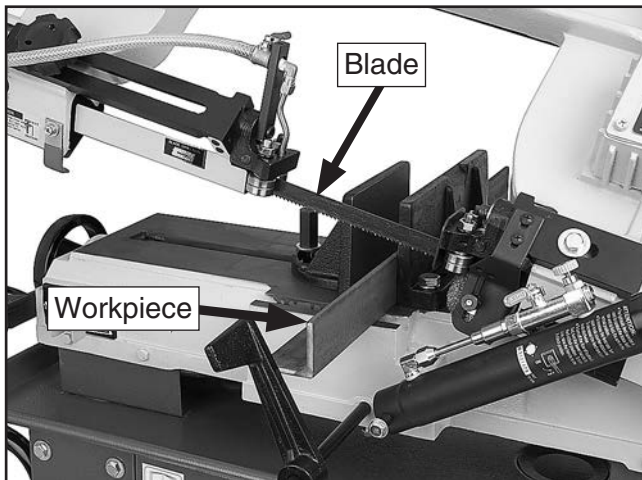

Figure 42. Correct blade starting position.
- Let blade reach full speed before engaging workpiece (see **Figure 42**). Never start a cut with blade in contact with workpiece.